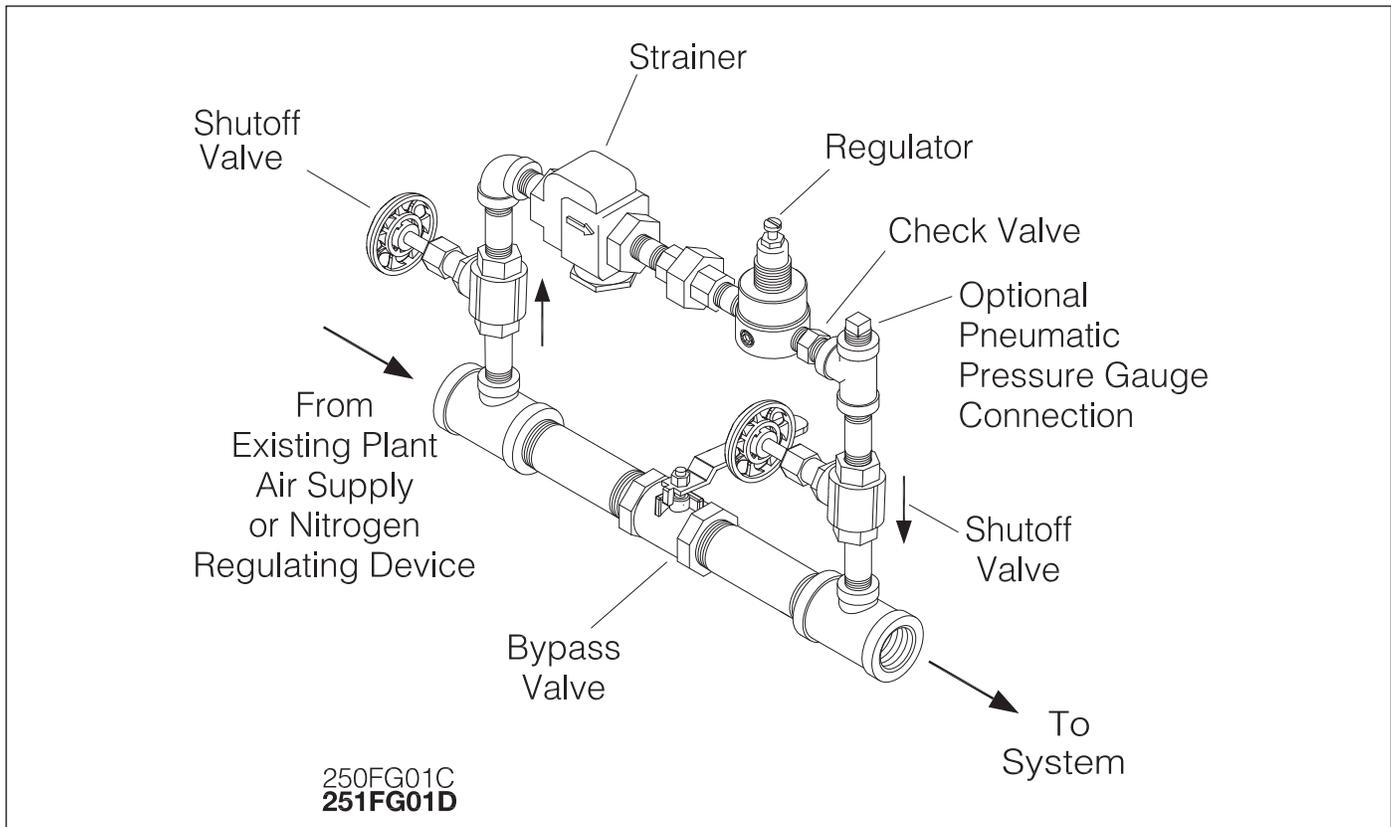

Fig. 8
Note: the locknut of the regulator (#1, Fig. 8) must be tightened after adjusting in order to prevent an accidental change in the pressure setting.
(refer to Figure 8):
The pressure regulator (Fig. 8) is factory set to maintain a nominal system air or nitrogen pressure of 30 psi (2.1 bar). In order to change the outlet pressure, loosen the locknut at the top of the regulator and turn the adjustment screw clockwise to increase pressure. To decrease the pressure, turn the adjusting screw counter clockwise. The resulting pressure can be determined at the sprinkler air gauge once the air flow through the device has ceased, or at the optional gauge location shown on Figure 8.
Refer to figure 8
4. If maintenance is to be performed on the Regulator, Strainer or Check Valve of Fig. 8 of the pressure maintenance device, make sure that both Shutoff Valves are closed and that pressure has been relieved from the section through the 1/4" union. These valves must be opened again in order to restore proper automatic operation.
- a) Make sure the air flow through the Model A-2 Pressure Maintenance Device is as shown by the arrows in Figs. 8 & 11